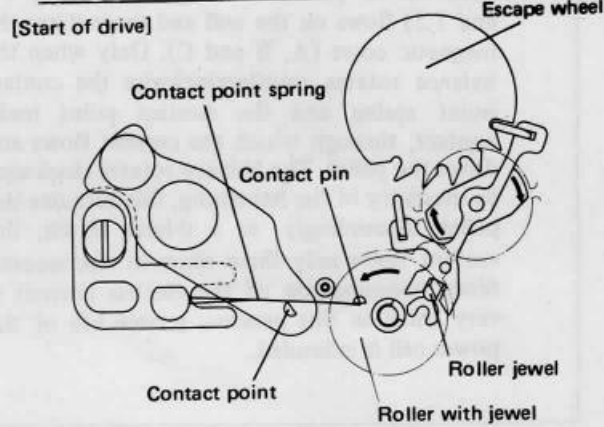

Fig. 1-7
- (2) When the balance rotates counterclockwise, and at the moment the roller jewel enters the fork slot of the pallet (as in Fig. 1.7), the contact point spring and the contact point make contact and the current flows on the coil, the magnetic cores A, B, and C are magnetized, and the pallet is driven in the arrow direction.